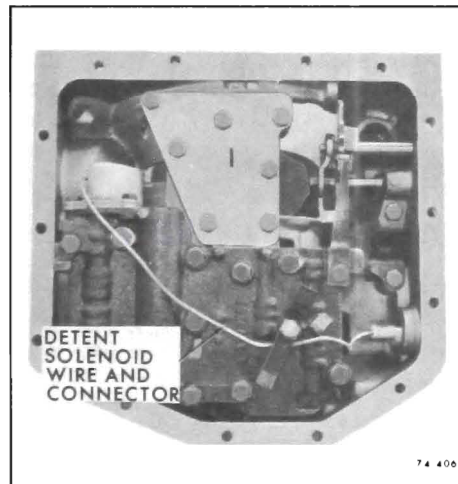

Figure 74-105
1. Disconnect detent solenoid wire from case connector. See Figure 74-105.